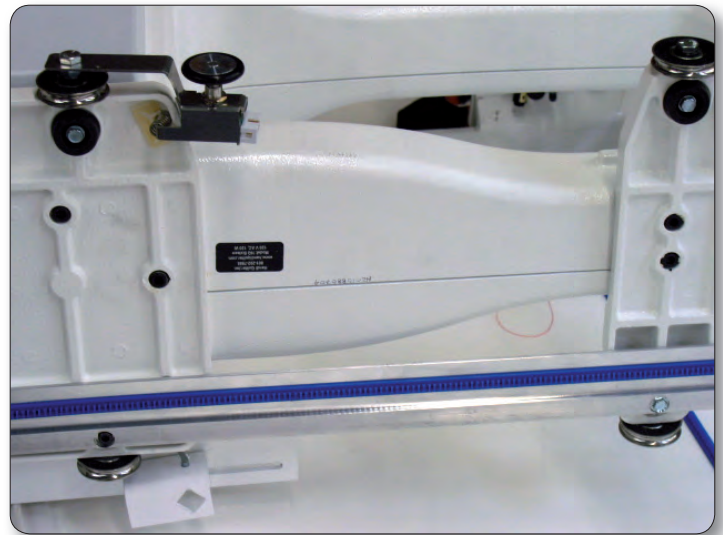

Figure 9
- 1.** Place the HQ Sixteen on its side as in Figure 9. Remove the encoder bracket/wheel mounting bolt using a 7/16" wrench and removing the bolt and bracket that attach the wheel to the rear base plate.